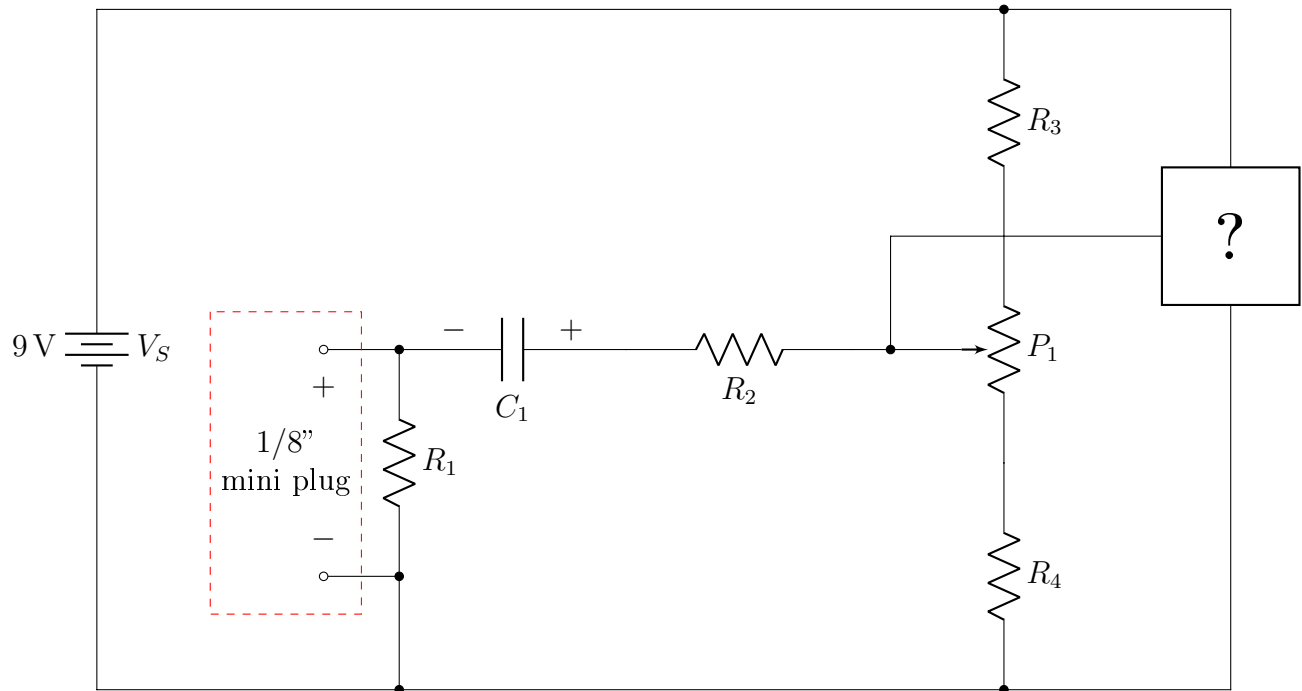

Figure 3: Music Transmitter Circuit with Mystery Load Elements
1. Build the circuit shown in Figure 3. From your knowledge of MOSFETs, LEDs, and current-limiting resistors from this lab and previous labs, determine in which order these 3 circuit elements (i.e. a BS170 MOSFET, a Red LED, and 100  $\Omega$  resistor) should be connected to produce an LED whose brightness varies with the amplitude of the input music signal or function generator time-varying signal that will be attached to the 1/8" mini headphone jack. Think about how the BS170 MOSFET should be oriented (Drain and Source pins) in order to be properly biased to turn on when a voltage at the Gate is applied.